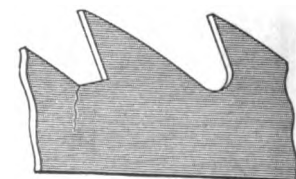

FIG. 5
**Cracking at Rim**—Among the various causes of cracking at the rim is filing sharp corners at the bottom of the teeth. Fig. 5 represents a section of a 14" saw filed in this manner which cracked and was sent to the manufacturer for repairs.